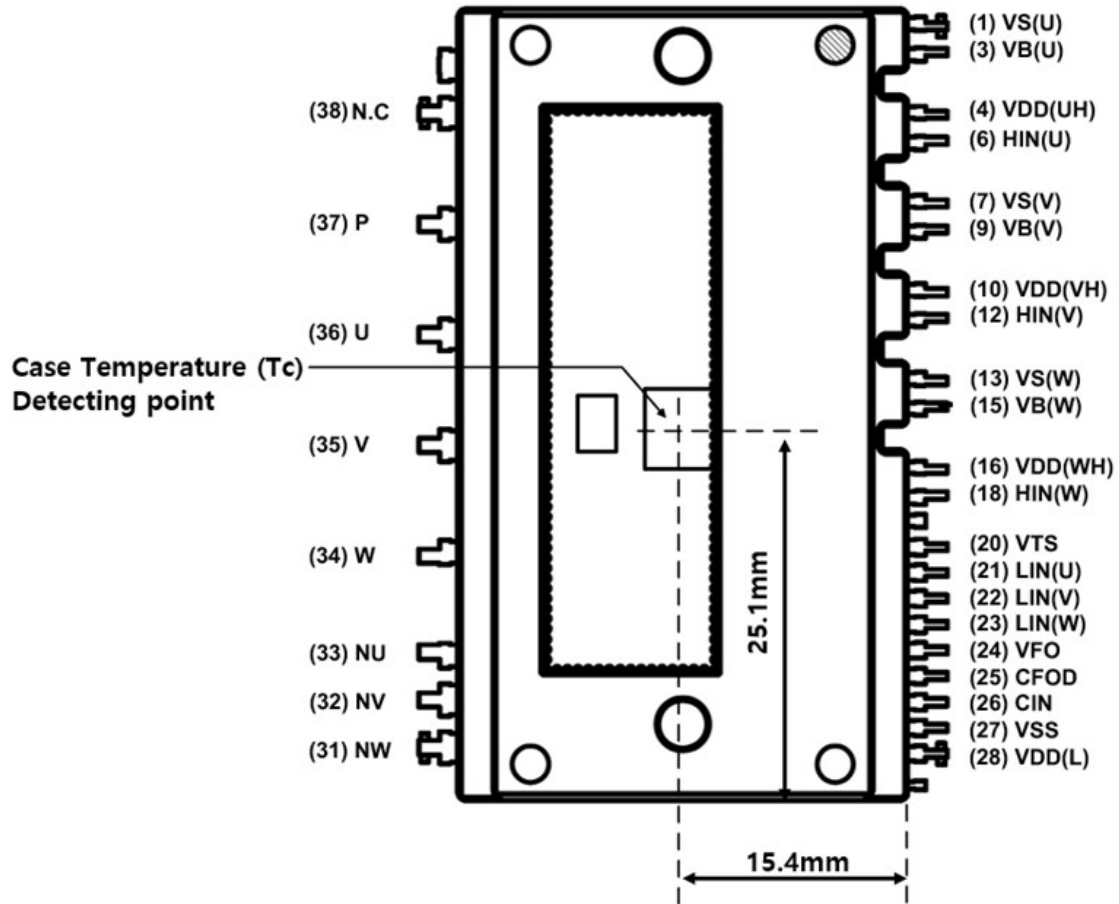

Figure 1. Pin Configuration – Top View
- For the measurement point of case temperature (T_c), please refer to Figure 1.